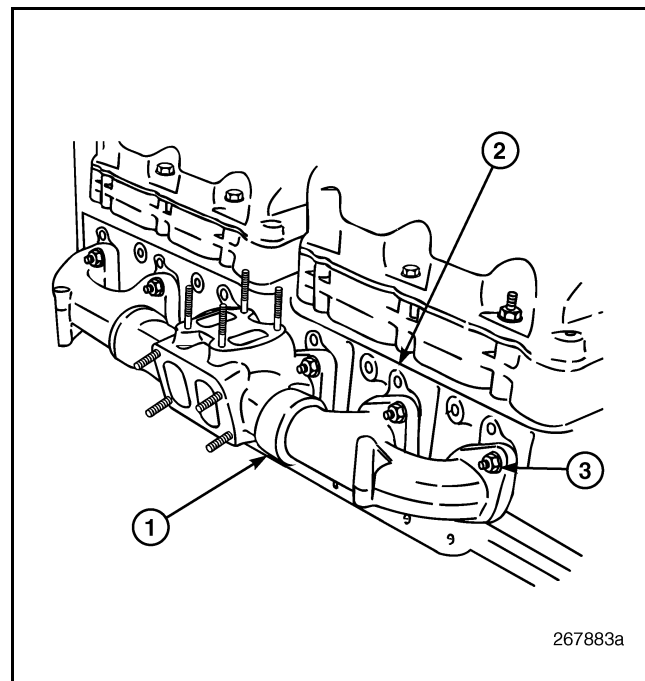

Figure 157 — Exhaust Manifold Removal
- Support the exhaust manifold and remove the 12 mounting nuts (Figure 157) securing the manifold to cylinder heads.